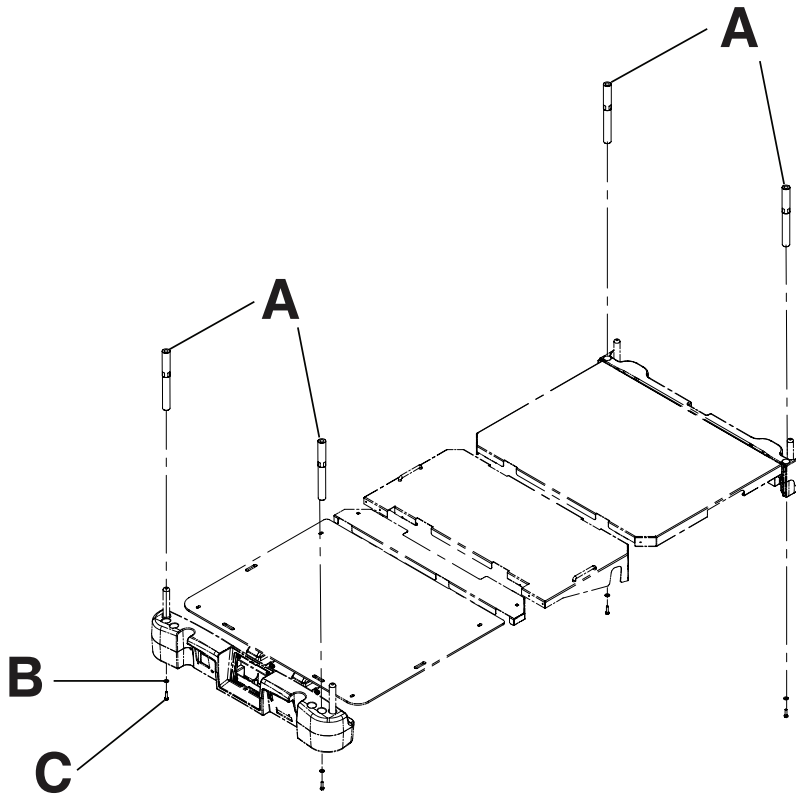

Figure 127 – Traction sleeves
1. Attach the traction sleeves into the sockets at the head end and foot end of the product (A) (Figure 127).